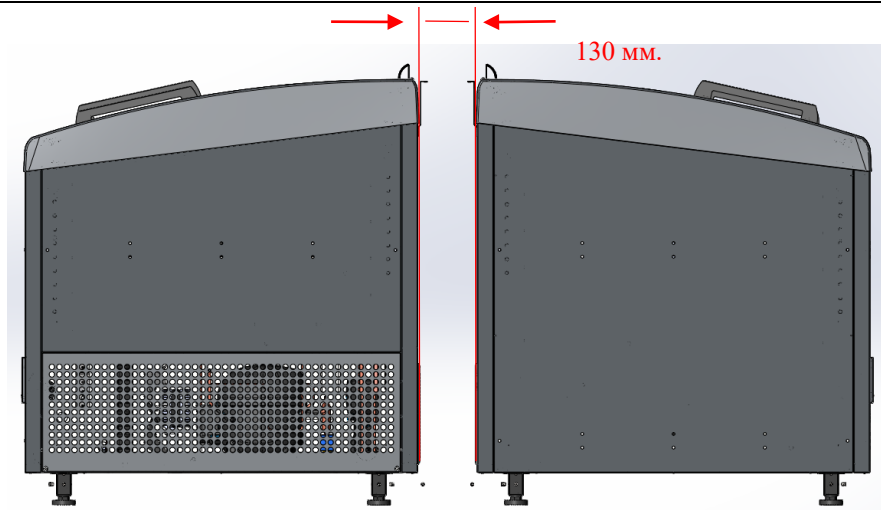

Fig. 4.2.1. Placement of brackets.
1. Mount the brackets on the back panel (Fig. 4.2.1).